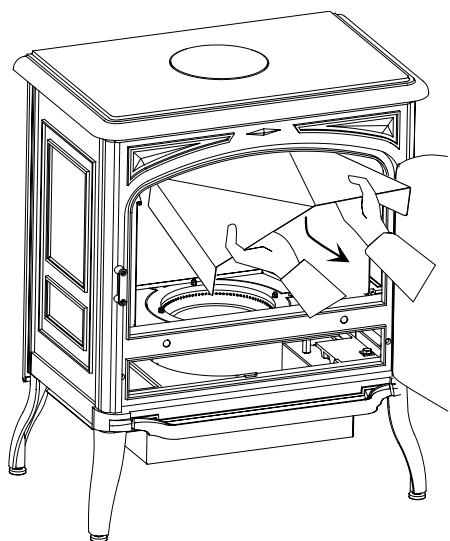

Figure 18
- Remove the flue baffles (figure 18 and 19). If a soot buildup has occurred on the flue baffles and the combustion chamber, it should be removed.